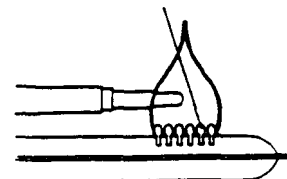

FIG. 11
- NOTE: The color of the flames shall be clear blue over the slots of the burner. (See FIG. 11).